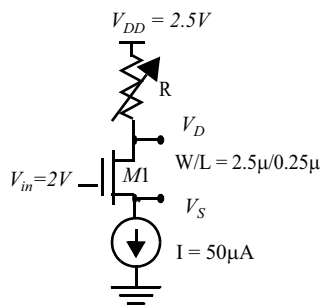

Figure 0.4 Test configuration for the NMOS device.
8. [M, None, 3.3.2] An NMOS device is plugged into the test configuration shown below in Figure 0.4. The input $V_{in} = 2V$. The current source draws a constant current of $50 \mu A$. R is a variable resistor that can assume values between $10k\Omega$ and $30 k\Omega$. Transistor M1 experiences short channel effects and has following transistor parameters: $k' = 110 \cdot 10^{-6} V/A^2$, $V_T = 0.4$, and $V_{DSAT} = 0.6V$. The transistor has a $W/L = 2.5\mu/0.25\mu$. For simplicity body effect and channel length modulation can be neglected. i.e $\lambda=0, \gamma=0$.